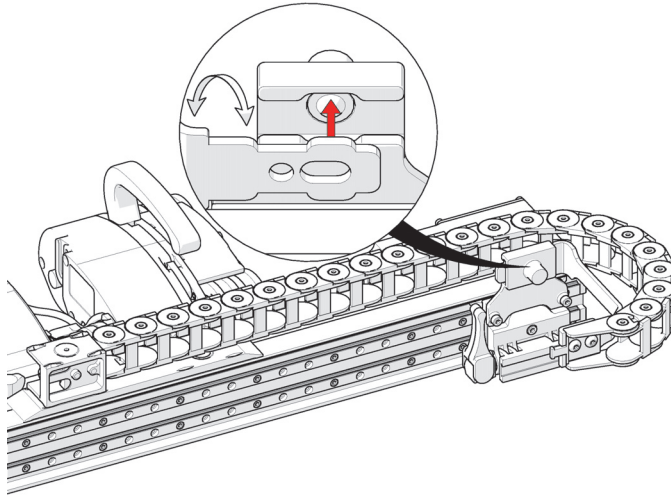

Figure 2-42 Press bracket to carriage
2. Press the cable tray bracket into the rear of the carriage bracket (see Figure 2-42 on page 84).